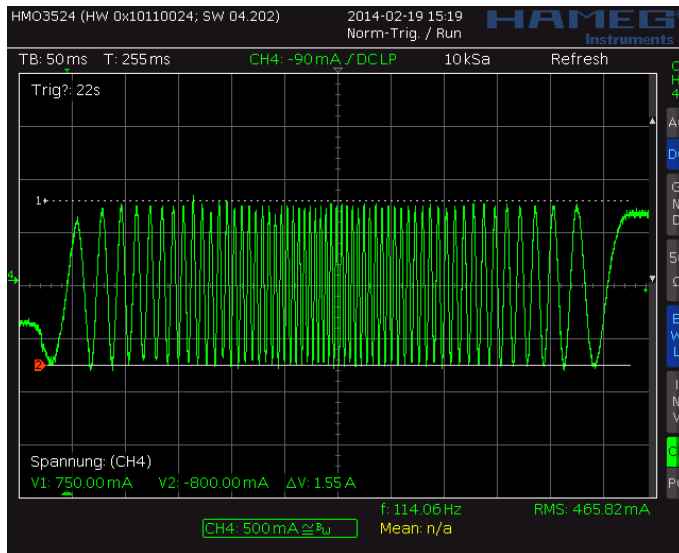
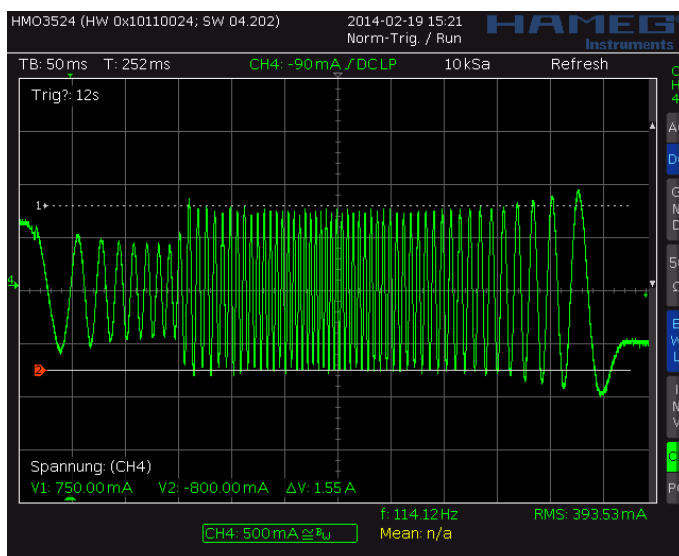
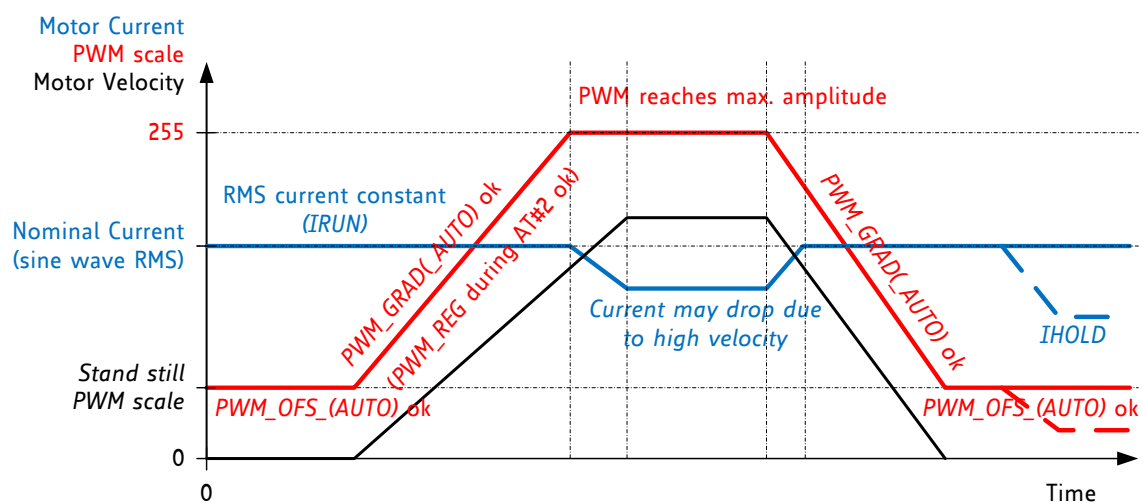

Figure 7.3 Scope shot: good setting for PWM_REG
Figure 7.4 Scope shot: too small setting for PWM_REG during AT#2
Figure 7.5 Successfully determined PWM_GRAD(_AUTO) and PWM_OFs(_AUTO)
In StealthChop voltage PWM mode, the autoscaling function ($pwm_autoscale = 1$, $pwm_auto_grad = 1$) regulates the motor current to the desired current setting. Automatic scaling is used as part of the automatic tuning process (AT), and for subsequent tracking of changes within the motor parameters. The driver measures the motor current during the chopper on time and uses a proportional regulator to regulate PWM_SCALE_AUTO in order match the motor current to the target current. PWM_REG is the proportionality coefficient for this regulator. Basically, the proportionality coefficient should be as small as possible to get a stable and soft regulation behavior, but it must be large enough to allow the driver to quickly react to changes caused by variation of parameters (e.g., change of mechanical load). During initial tuning step AT#2, PWM_REG also compensates for the change of motor velocity. Therefore, a high acceleration during AT#2 will require a higher setting of PWM_REG . With careful selection of homing velocity and acceleration, a minimum setting of the regulation gradient often is sufficient ($PWM_REG=1$). PWM_REG setting should be optimized for the fastest required acceleration and deceleration ramp (compare Figure 7.3 and Figure 7.4). The quality of the setting PWM_REG in phase AT#2 and the finished automatic tuning procedure (or non-automatic settings for PWM_OFS and PWM_GRAD) can be examined when monitoring motor current during an acceleration phase Figure 7.5.